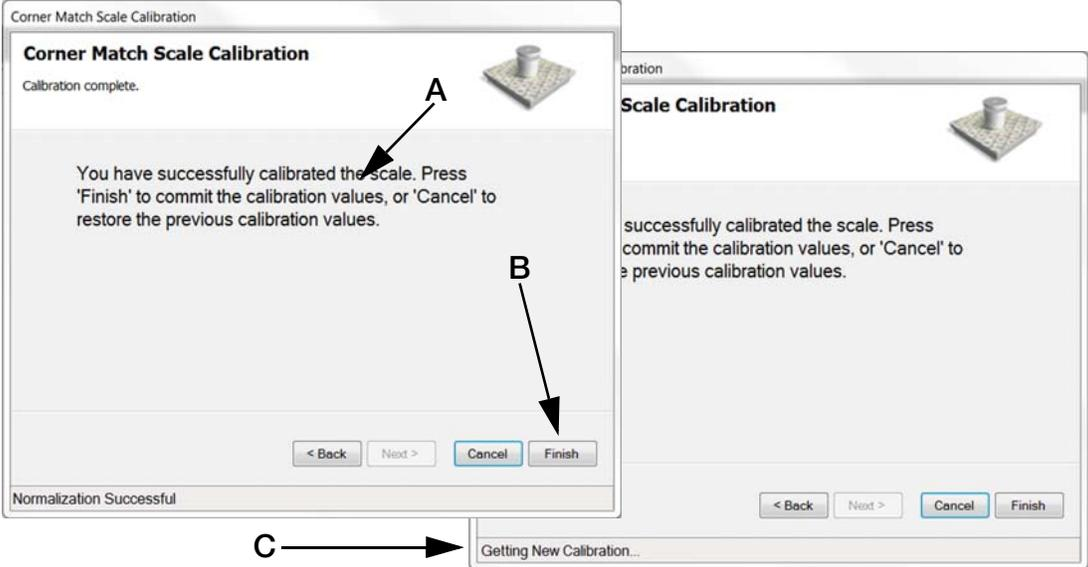

Figure 5-9. Finish Calibration
13. A message that you have successfully calibrated the scale will appear (Figure 5-9 A), then press **Finish** (Figure 5-9 B).
A message appears in the bottom of the frame *Getting New Calibration* (Figure 5-9 C). When done the pop up box will disappear and calibration is complete.